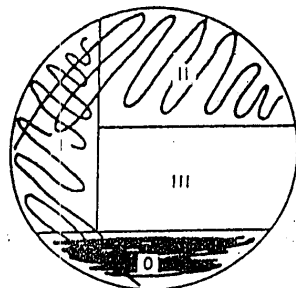

Figure 8-5:
6. Draw the streak lines as shown in Figure 8-5. This is step 3 of the procedure.